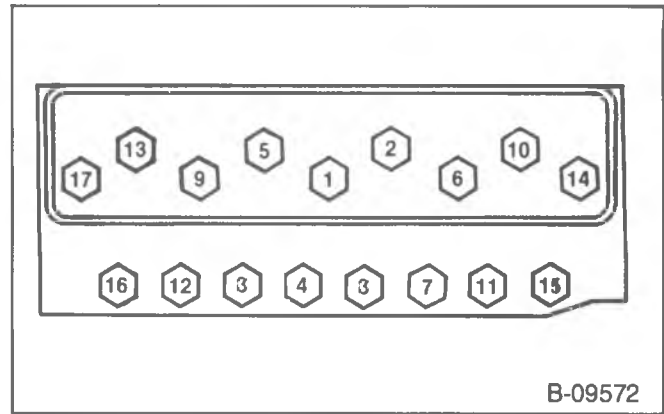

Figure 15—Cylinder Head Bolt Tightening Sequence
↔ Install or Connect (Figure 15)
- Cylinder head bolts, a little at a time, using the sequence shown in figure 15. Proper torque is 90 N·m (65 ft. lbs.).